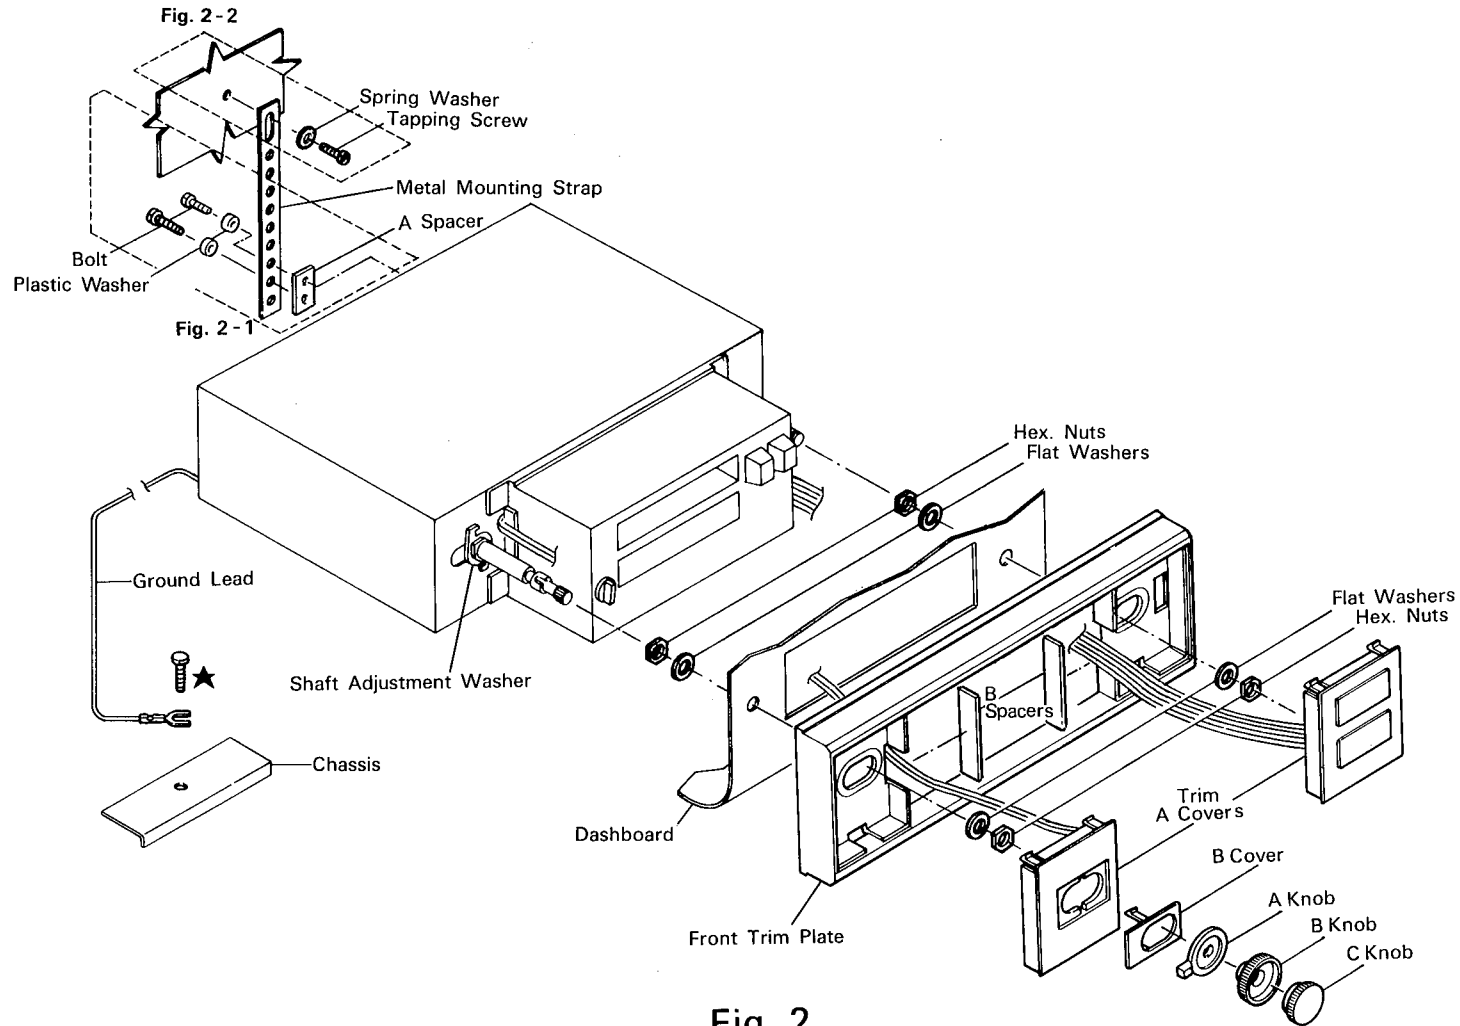

Fig. 2
Your CH160 comes with a complete kit that includes a mounting strap, bolts, washers, front trim plate and control knobs. Fig. 2 shows the proper step procedure. Look at the diagram and make sure that you have all the necessary parts. Then, begin this procedure.
3. Remove the paper on the back of spacer B, and stick it on the front trim plate as shown in Fig. 2.